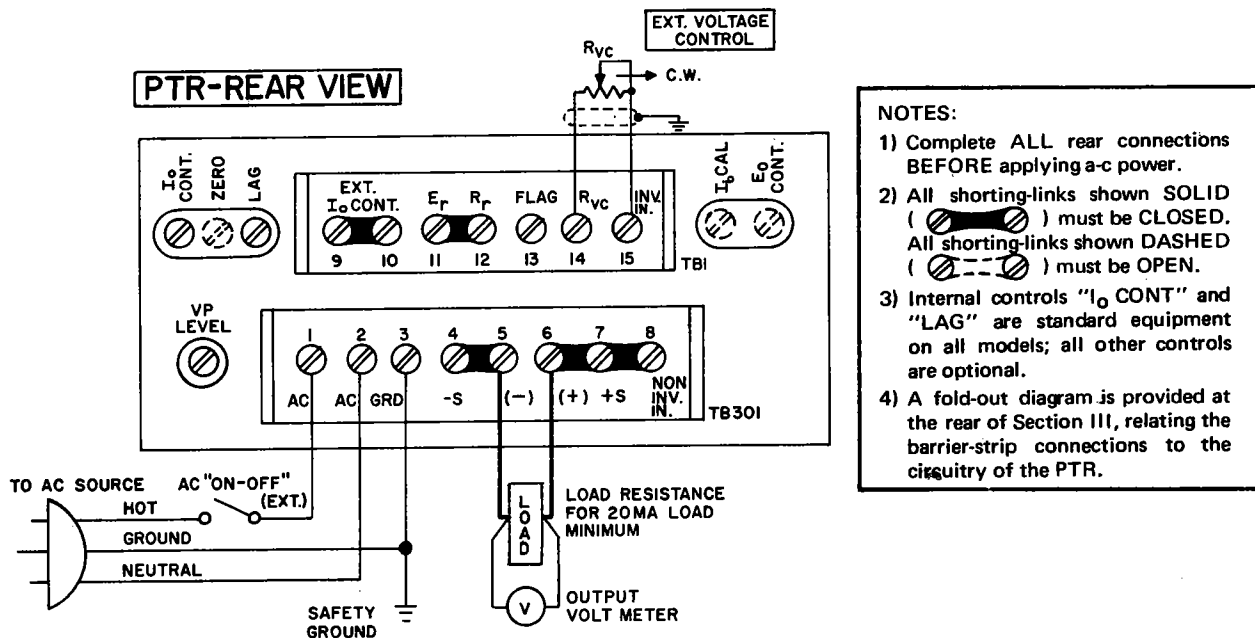

FIG. 2-4 OVERVOLTAGE CROWBAR SETUP CIRCUIT.
- Connect PTR supply and external components as shown in FIG. 2-4.
- Locate "VP LEVEL" control (R314) to the left of the lower barrier-strip in the rear (refer to FIG. 2-4). Turn completely clockwise.
- Adjust the desired output voltage *at which the overvoltage crowbar is to trigger* (NOT your operating voltage) by means of the "EXT. VOLTAGE CONTROL." Refer to FIG. 2-4. Make certain, this control is connected *exactly* as shown; i.e., *clockwise* rotation should cause an *increase* in output voltage.